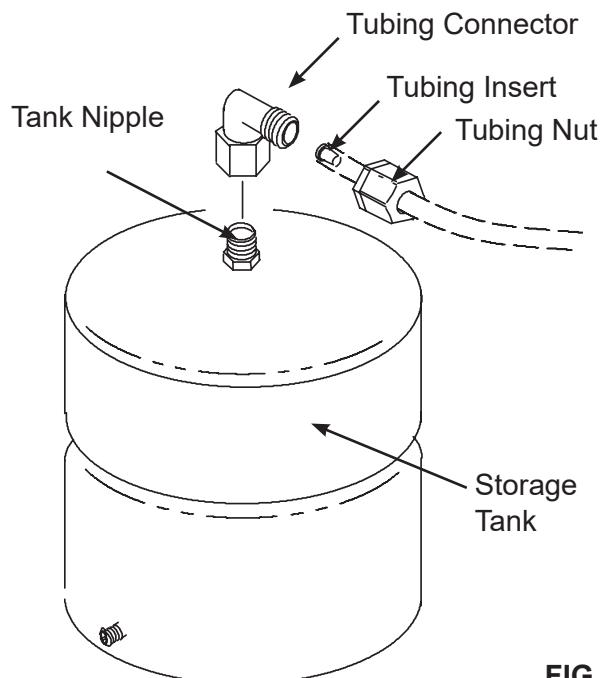

FIG. 11
1. Apply of thread sealing tape (2 wraps clockwise) to the threads on the nipple at the top of the tank. See Fig 11.
2. Locate the tubing connector. See Fig. 11. Tighten the tubing connector onto the tank nipple 7-8 full turns, being careful not to cross thread or overtighten.